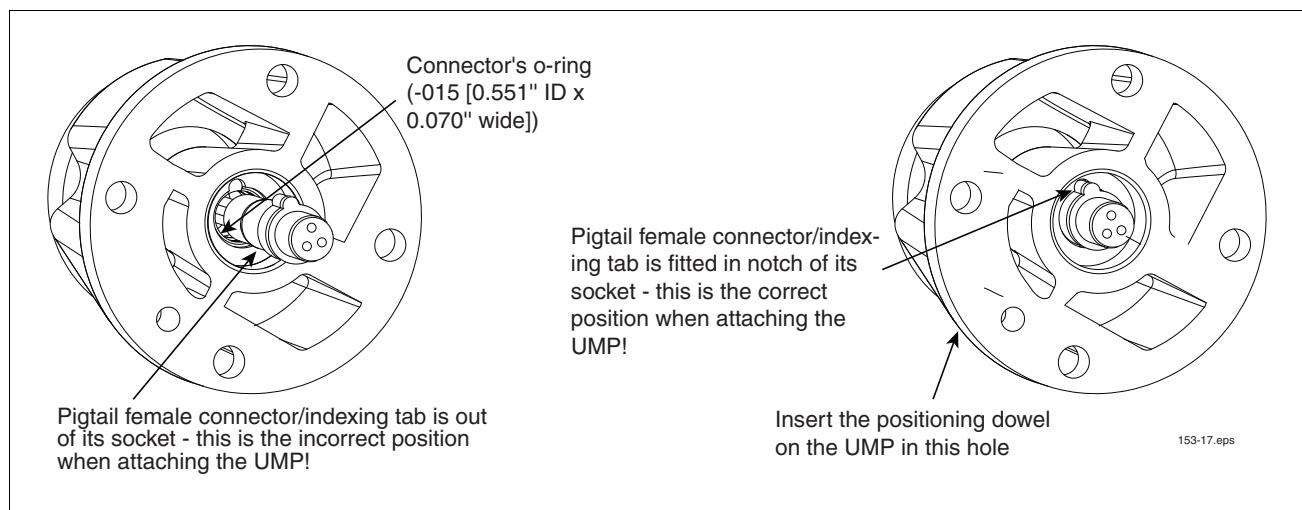

Figure 31. Verifying Pigtail's Female Connector Is Seated Properly
6. Pull the pigtail connector in the discharge head out far enough to see the o-ring in the sidewall of its socket (see Figure 31). Remove the connector's o-ring from the connector's socket and discard it. Get a 0.551" ID x 0.070" wide o-ring from the kit and lubricate it with petroleum jelly. Slide the new o-ring over the pigtail connector and push it in the groove in the wall of the connector's socket. Lubricate the pigtail connector body with petroleum jelly and push it back into its socket, making sure its index tab is in the socket's notch.